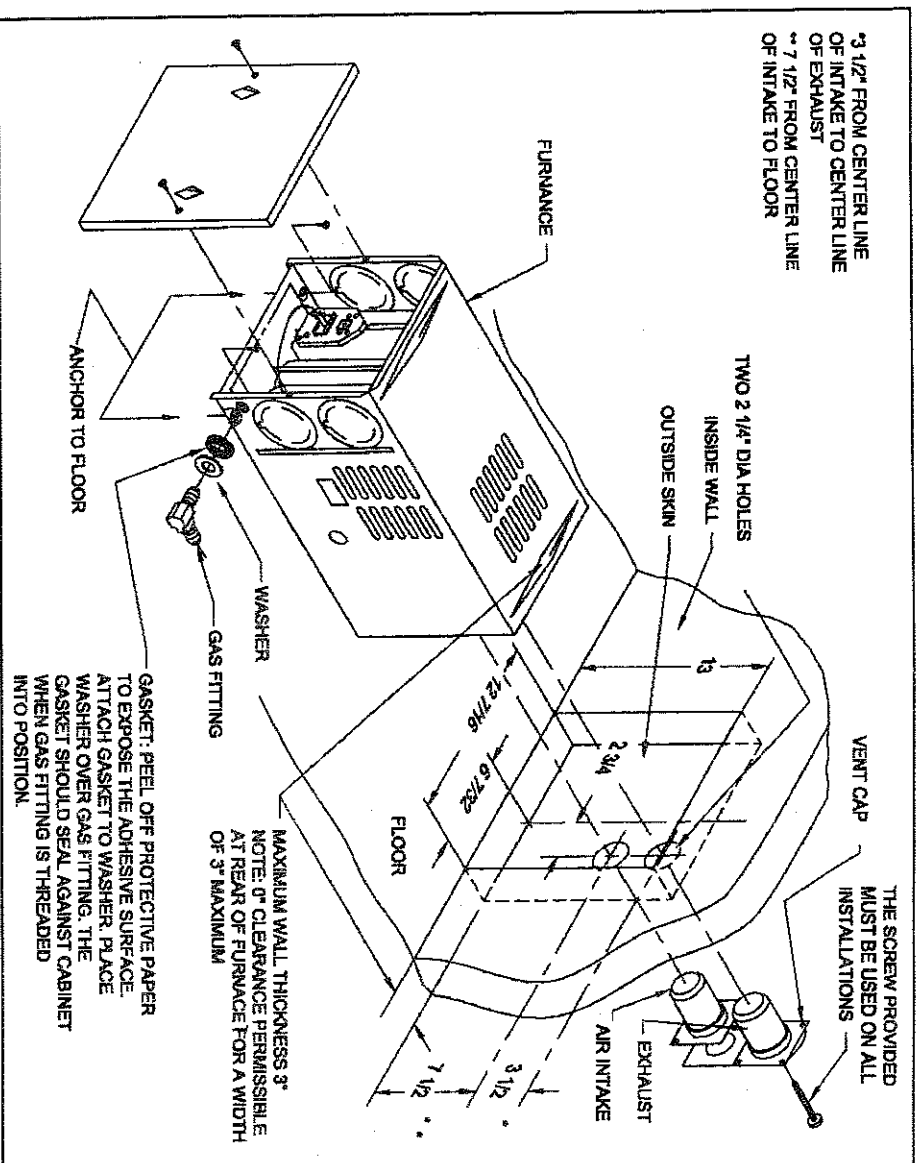
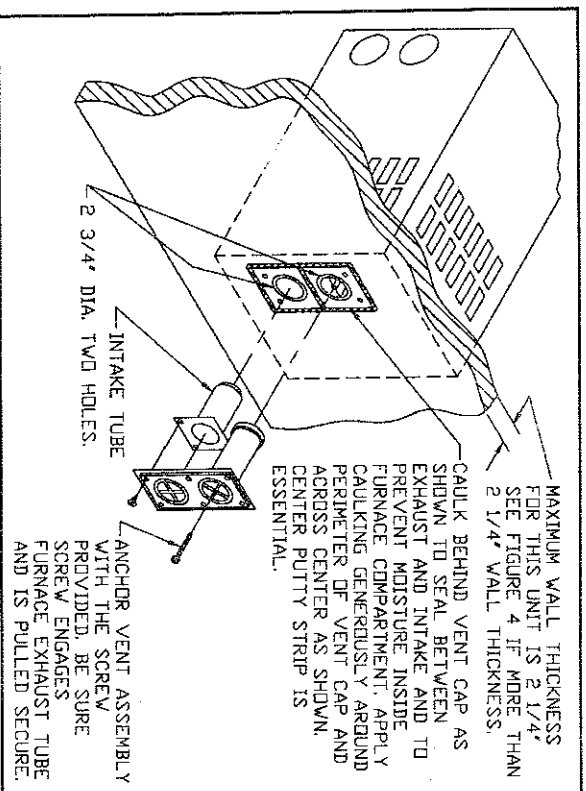

Figure 1
Figure 2
4. Locate center lines for exhaust and intake tubes as shown in Figure 1. Cut two 2 3/4" diameter holes through coach wall for exhaust and intake. (See Figure 2.)
6. Fasten furnace to floor of coach using the two holes provided in front plenum area of furnace cabinet. (See Figure 1.)
1. Apply caulking to RV skin behind vent cap as shown in Figure 2. Apply caulking generously around perimeter of vent cap and across center as shown.
2. Insert intake tube through RV skin and slide it onto the furnace intake. (See Figure 2.) Minimum tube overlap of 1/2" is required.
3. Insert vent cap exhaust tube through RV skin and slide it onto the furnace exhaust. (See Figure 2.) Minimum tube overlap of 1 1/4" is required.
4. Attach vent cap assembly to outer skin of RV with the six (6) screws provided. Do not install vent assembly upside down. The words "Suburban" and "Dayton, Tenn." must be right side up.
5. Attach the vent assembly to the furnace using the special 3 1/2" screw provided. Insert screw through hole provided in exhaust opening of vent assembly and secure to bracket in exhaust tube of furnace. This anchors the furnace to the vent assembly and the outer skin of the RV. (See Figure 2.)
1. Be sure that the gas fitting is outside of the furnace jacket and easily accessible. (See Figure 1.) The fitting may be connected directly to the 90° elbow at the gas inlet to the furnace. To assure an airtight seal, be sure the gasket provided with the furnace is installed between the fitting and the furnace cabinet, as illustrated in Figure 1. If this gasket is omitted, it could result in overheating of component parts within the furnace.